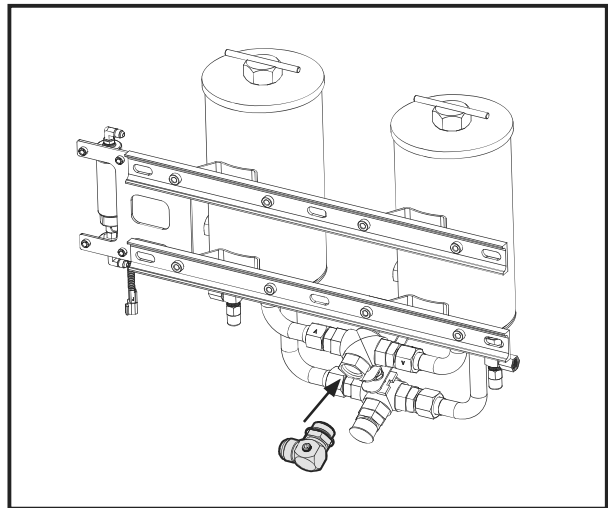

Figure 3 - Install the 90° fitting
3. Install the 90° fitting on the outlet manifold. See Figure 3